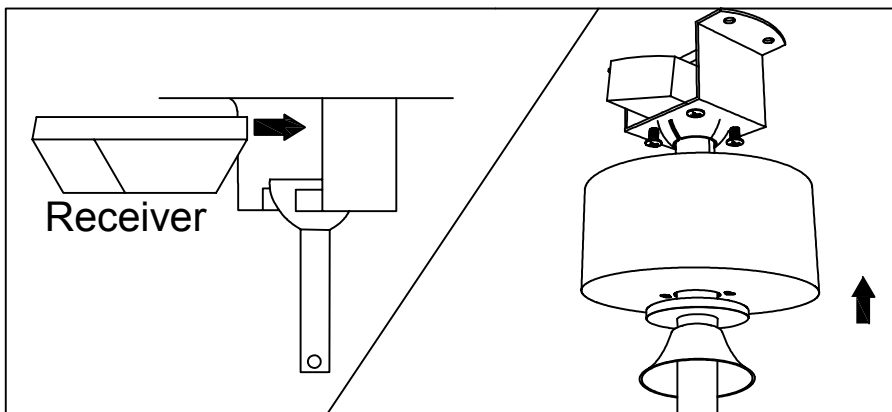

Figure 6.1
- Position the receiver into the mounting bracket as shown direction. When installing the canopy, ensure the antenna is not pressed by the canopy. Ensure to connect all ground wires accordingly. (Figure 6.1)